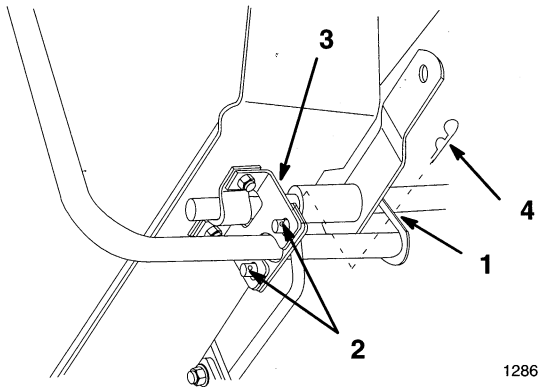

Figure 16
16. Hook end of crank handle support over cross shaft (Fig. 16). Rotate to align pins with holes in bracket and secure with hairpin cotter (Fig. 16).